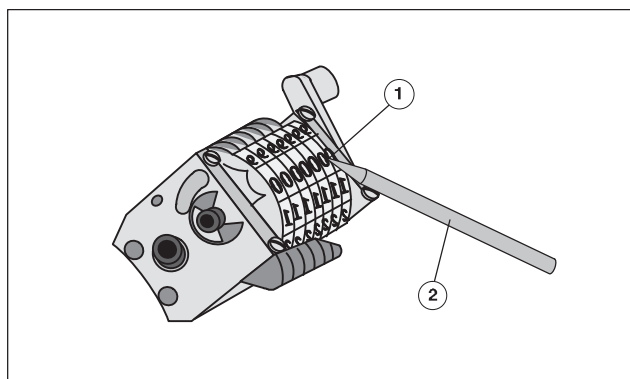

Fig. 5 Straight numbering box
The **numbers** of the straight numbering boxes (Fig. 5/1) are **parallel to the cylinder shaft**.
1. Using the tip of the plastic pin (Fig. 5/2), rotate the number zero forwards a bit and press in.